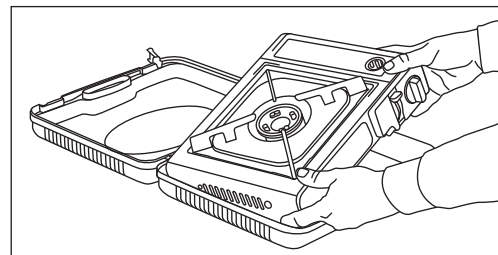

Fig. 1
1. Remove stove from plastic carry case and place on level non-combustible surface. Remove any transit protection material. (Fig. 1)